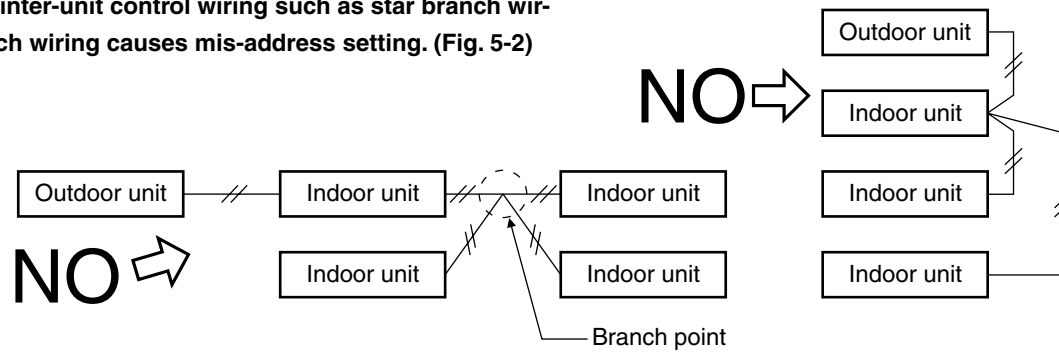

Fig. 5-2
(3) Do not install inter-unit control wiring such as star branch wiring. Star branch wiring causes mis-address setting. (Fig. 5-2)